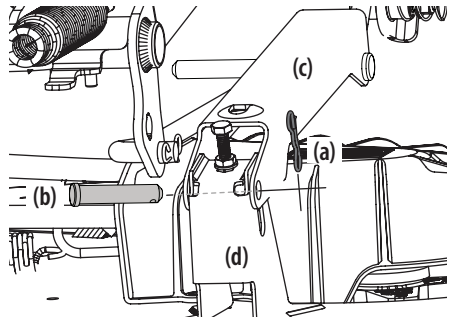

Figure 45
- a. Remove the two bow-tie pins (a) from the clevis pins (b) that secure the lift link brackets (c) to the rear deck lift brackets (d) on the deck. Remove the clevis pins (b). See Figure 45.